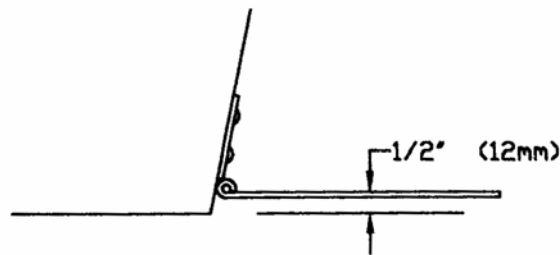

FIG. 1
**TABS:** The tabs are designed to be secured to the transom, or in an underhull pocket at or near the transom. If attachment to the transom is planned, the lower surface of the tab is ideally placed 1/2" (12mm) ABOVE the lower surface of the hull; see figure 1. If the tab is mounted lower, water will spray up through the hinge slot which may or may not be desirable. For example, with a swim platform such spray may not be a factor.